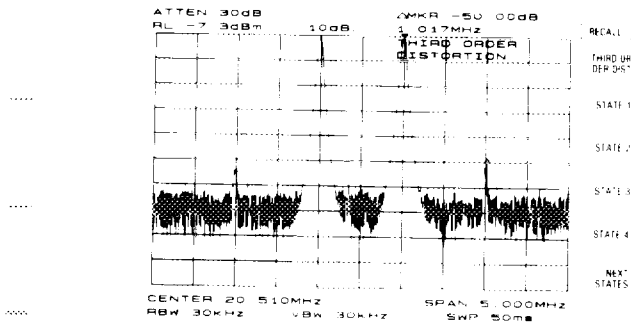

Fig. 4.7. **RECALL** menu.
- To save the instrument state, press **SAVE** and the softkey SAVE STATE; then press a softkey to enter the instrument state data into whichever register (0 - 9) you select. The first sixteen characters of the title are used to label the register on the **RECALL** menu. To view this menu, press **RECALL** and the softkey RECALL STATE (see Figure 4.7). If a stored state has not been titled, the menu reads STATE followed by the register number chosen.